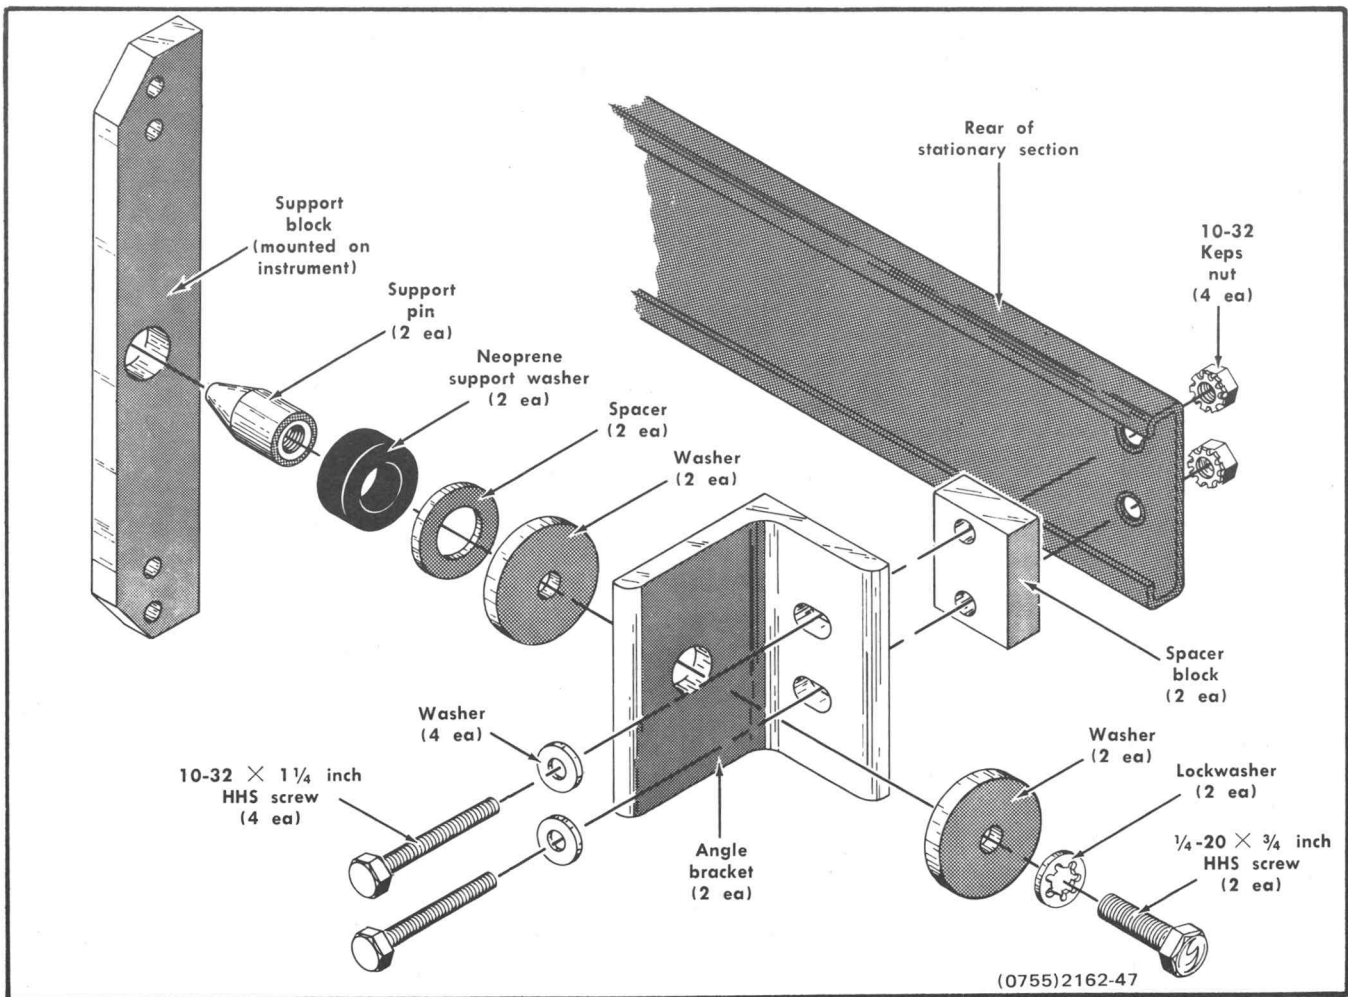

Fig. 4-12. Rear Support kit.
The following mounting procedure uses the rear support kit (see Figs. 4-12 and 4-13) to meet the environmental characteristics of the instrument (shock and vibration). Two alternative mounting methods are described at the end of this procedure. However, when mounted according to these alternative methods, the instrument may not meet the given environmental characteristics for shock and vibration.
3. Attach an angle bracket to both rear rails of the rack through the spacer block, stationary section and into the rear rail of the rack. Note that the holes in the spacer block are not centered. Be sure to mount the block with the narrow edge toward the front of the rack; otherwise, the instrument may not slide all the way into the rack. Do not tighten the mounting screws. Fig. 4-12 shows the parts in the rear support kit and the order in which they are assembled.
4. Assemble the support pin to the angle bracket in the order shown in Fig. 4-12. Leave the spacer (washer) off, but install the neoprene washer.